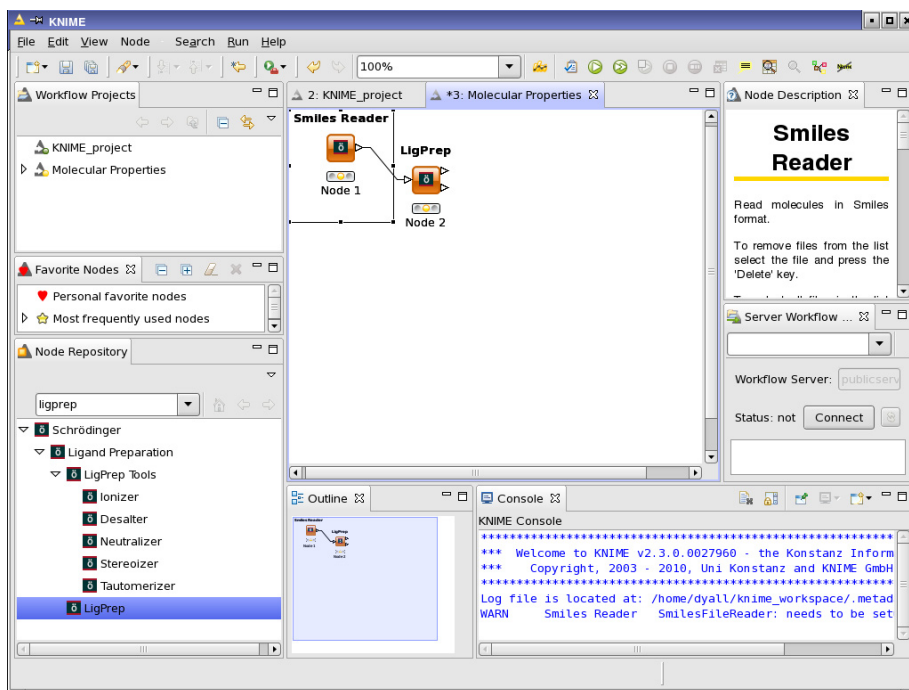

Figure 3.9. The KNIME workbench with the LigPrep node connected to the Smiles Reader node.
3. Connect the Smiles Reader node to the LigPrep node by clicking on the small triangle on the right side of the Smiles Reader node and dragging the pointer over to the small triangle on the left of the LigPrep node (see Figure 3.9).